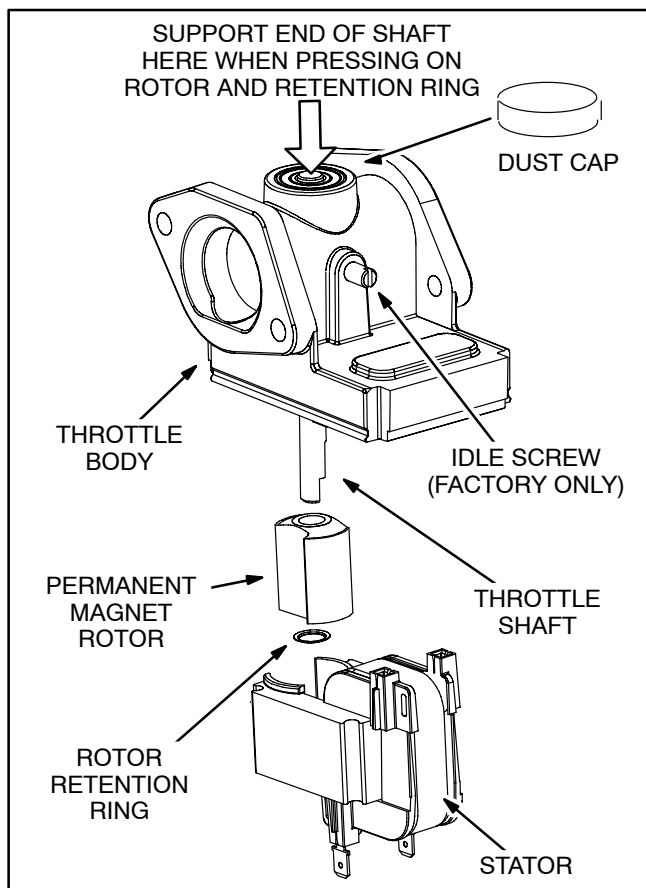

FIGURE 8-5. ACTUATOR ROTOR & STATOR
Do not attempt to readjust the idle screw (Figure 8-5), which was set and sealed at the factory.
**Replacing Throttle Body:** Replace the throttle body if there is any looseness, play or binding in the throttle shaft or if the factory seal on the idle screw has been broken. When pressing the rotor and retention ring onto the shaft of the throttle body, support the end of the shaft as shown (Figure 8-5) to avoid damage to the bearings and throttle plate. Then assemble stator, torsion spring, snap-on cover and dust cap to the body.